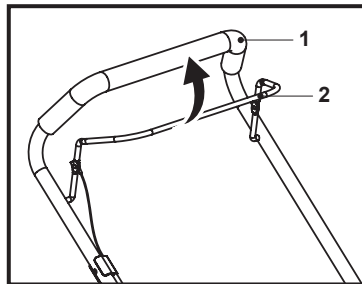

Fig. 10
1. Pull back the brake lever (2) and hold it against the grip handle (1) when starting the engine. Keep it squeezed during operation (Fig. 10).
2. Release the brake lever (2) to stop the engine.
1. Pull back the brake lever (2) and hold it against the grip handle (1) (Fig. 10).